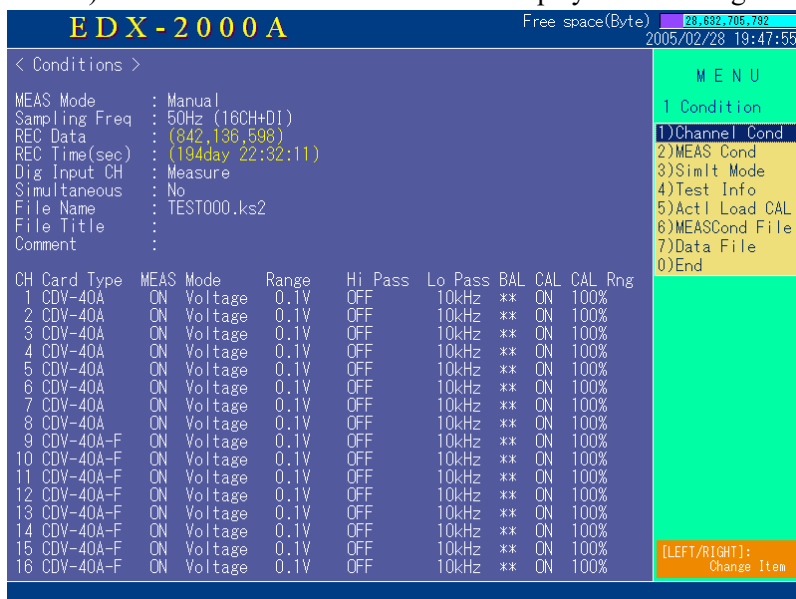

Figure 3. Set Condition Window
- 2) Select 2) Condition on the initial window to display the following window as shown in Figure 3.